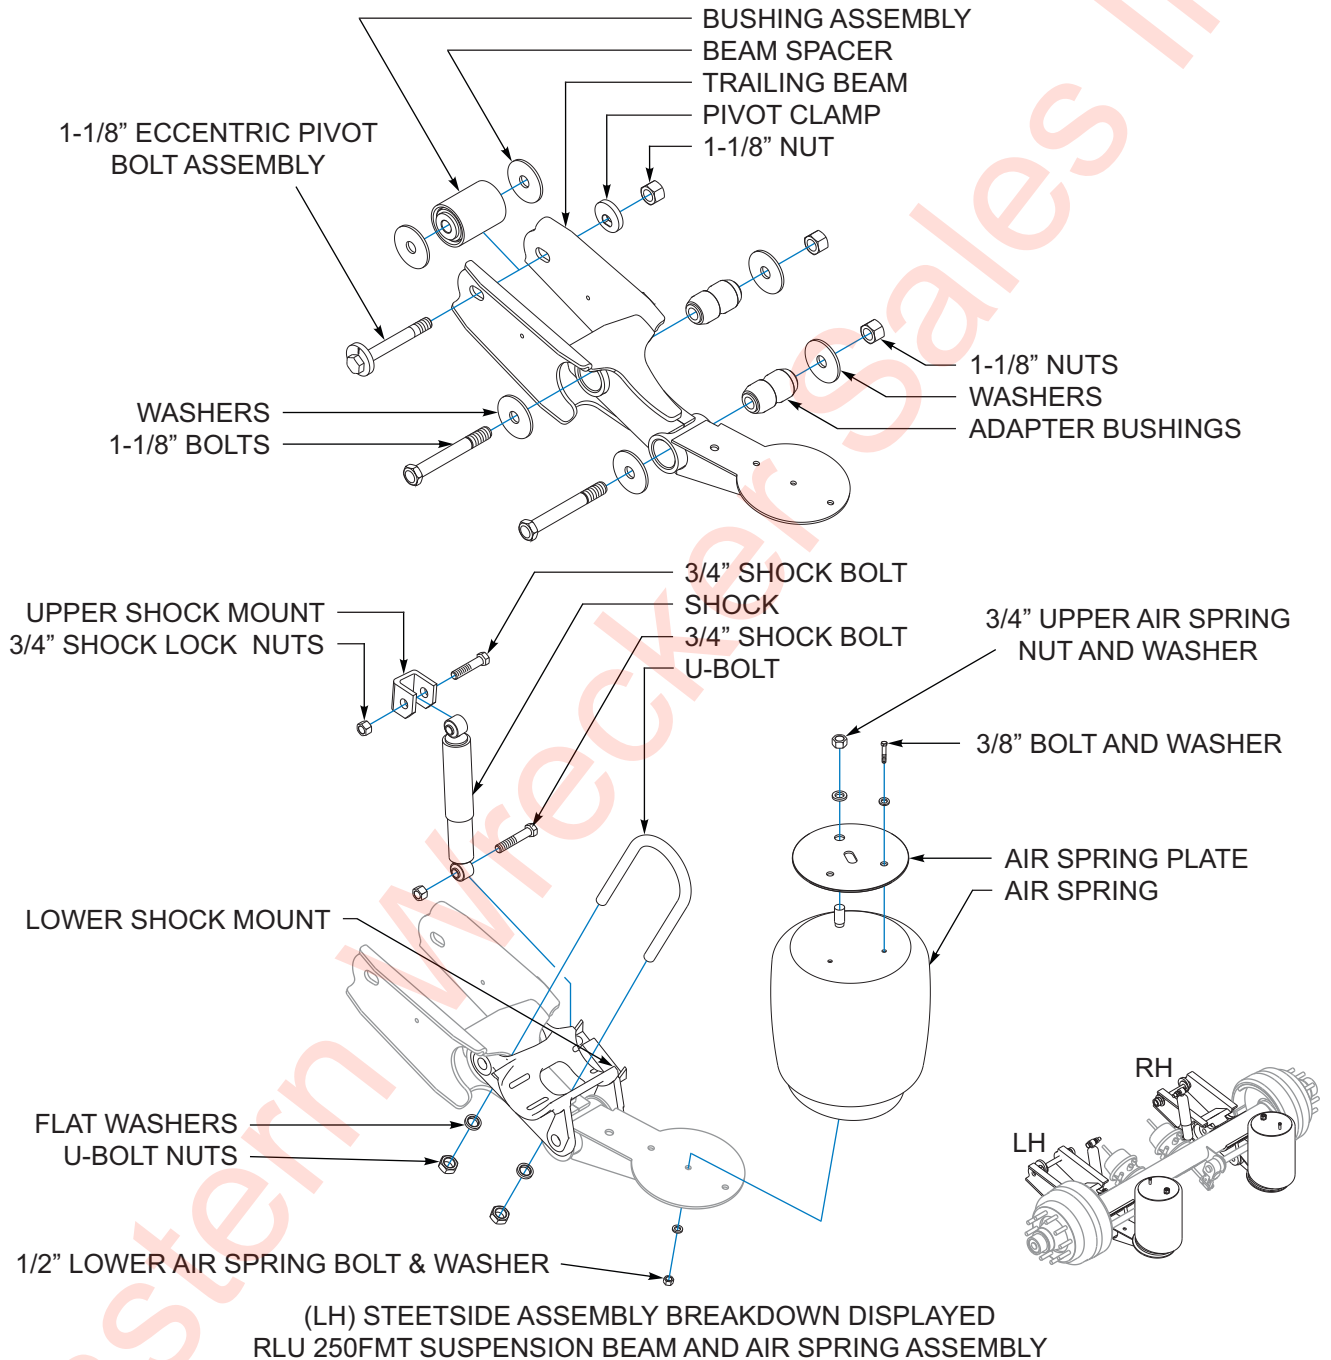
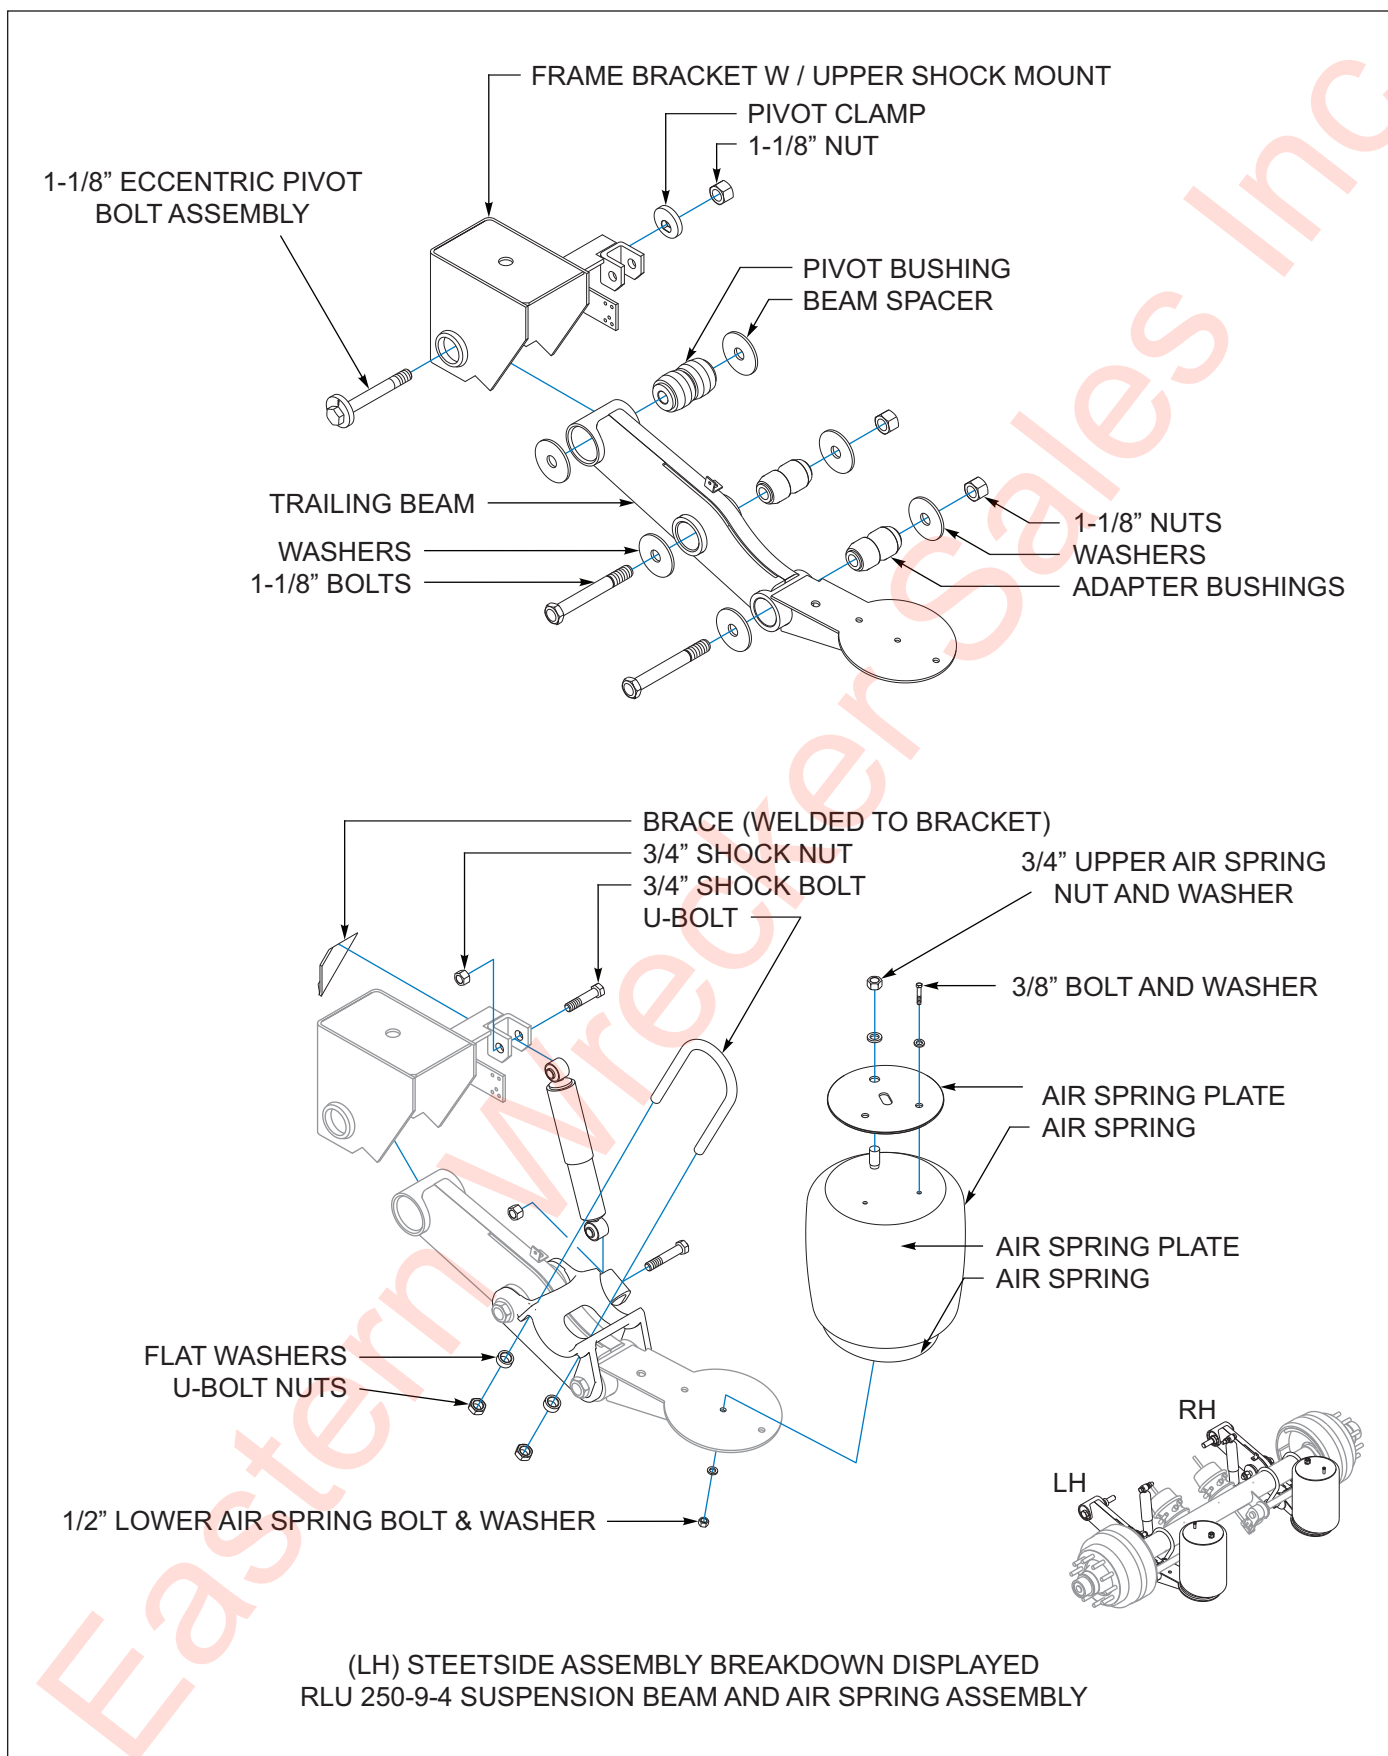
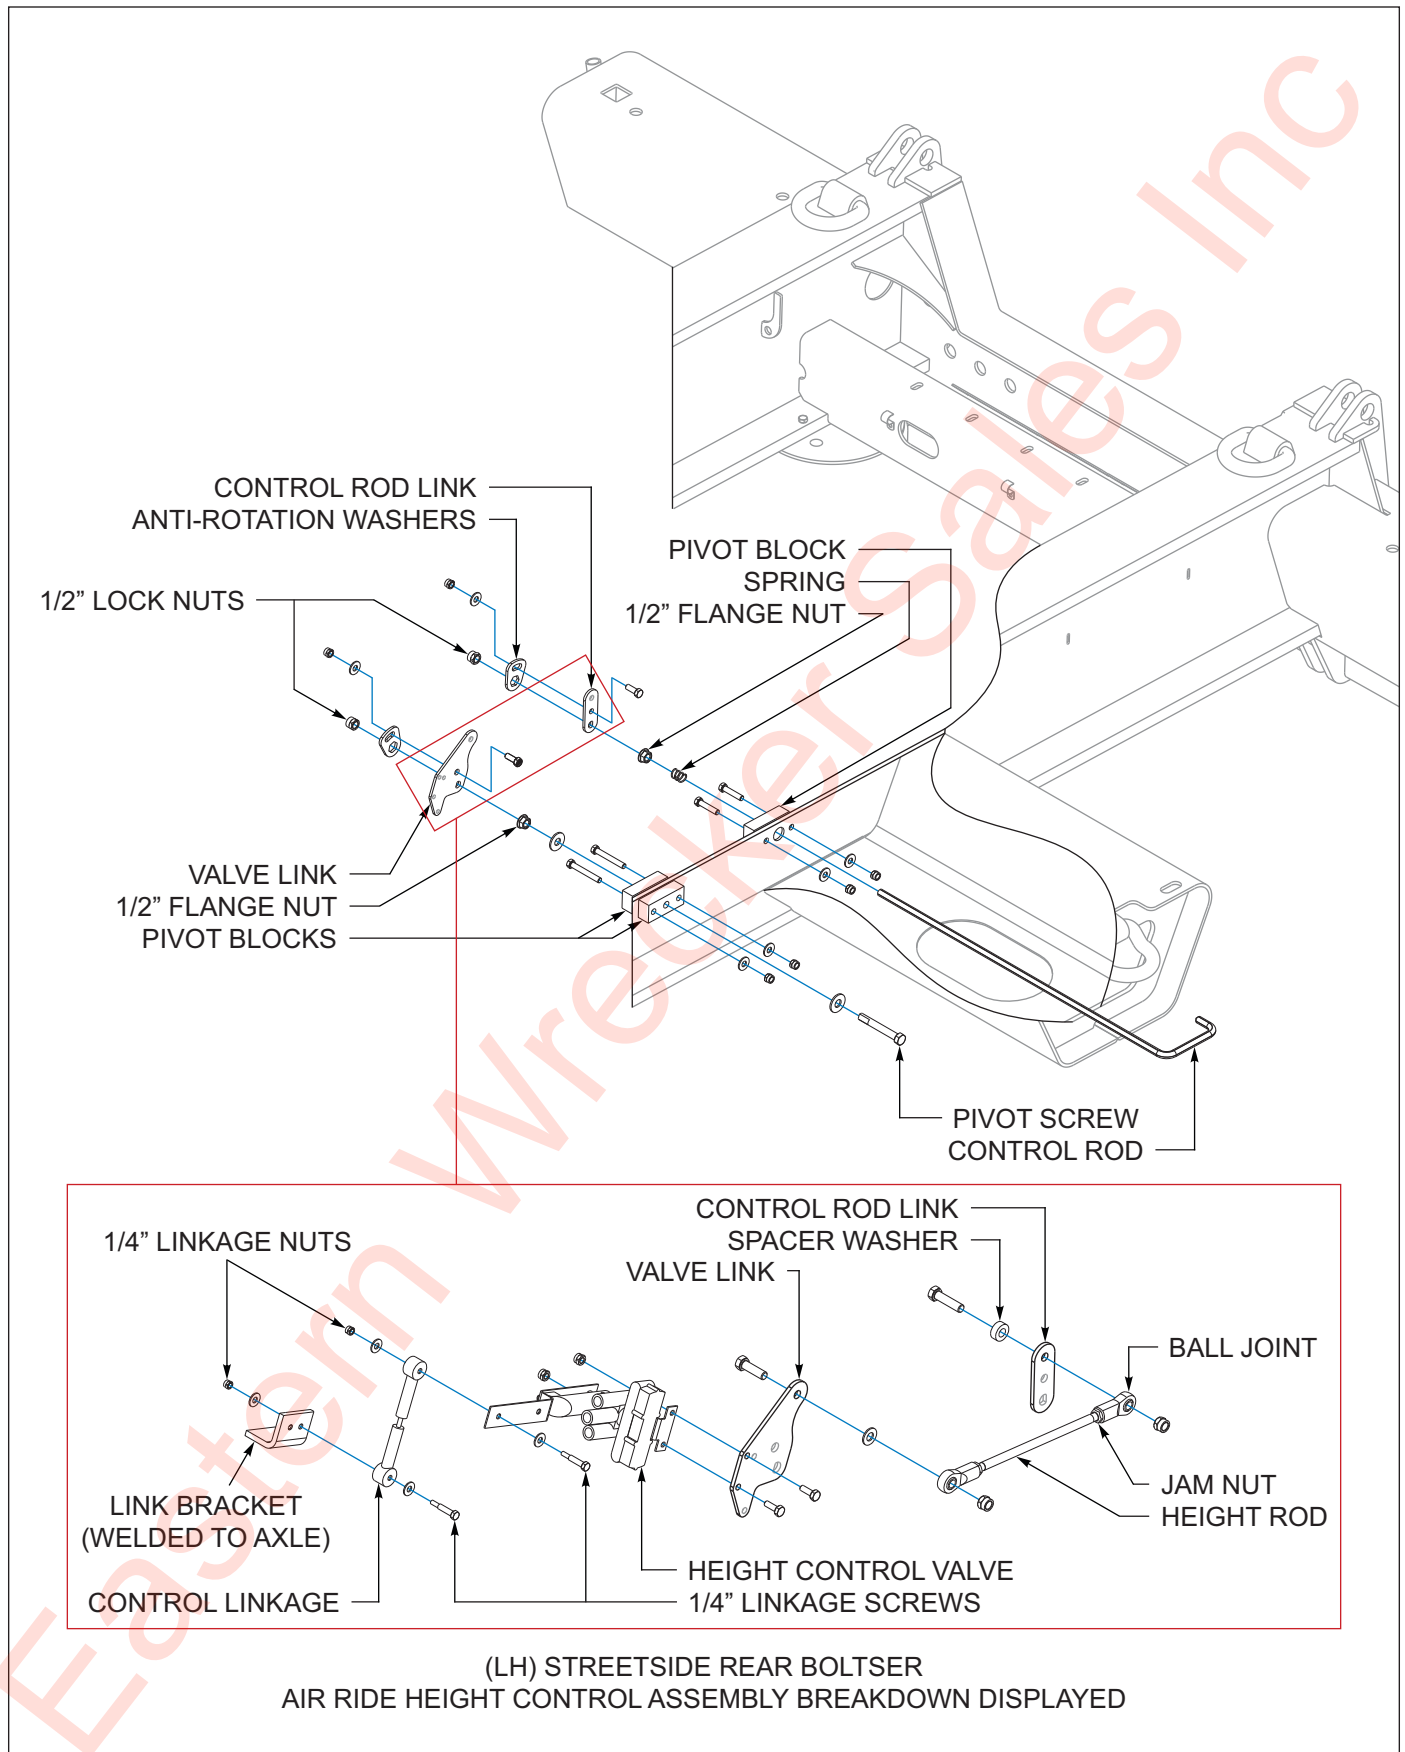

Figure 5-30: RLU 250FMT Suspension Components
Figure 5-31: RLU 250-9-4 Suspension Components
Figure 5-32: Ride Height Control Components
2. Check all other suspension components for any sign of damage, looseness, wear or cracks. **See Figures 5-30, Figure 5-31 & Figure 5-32.**